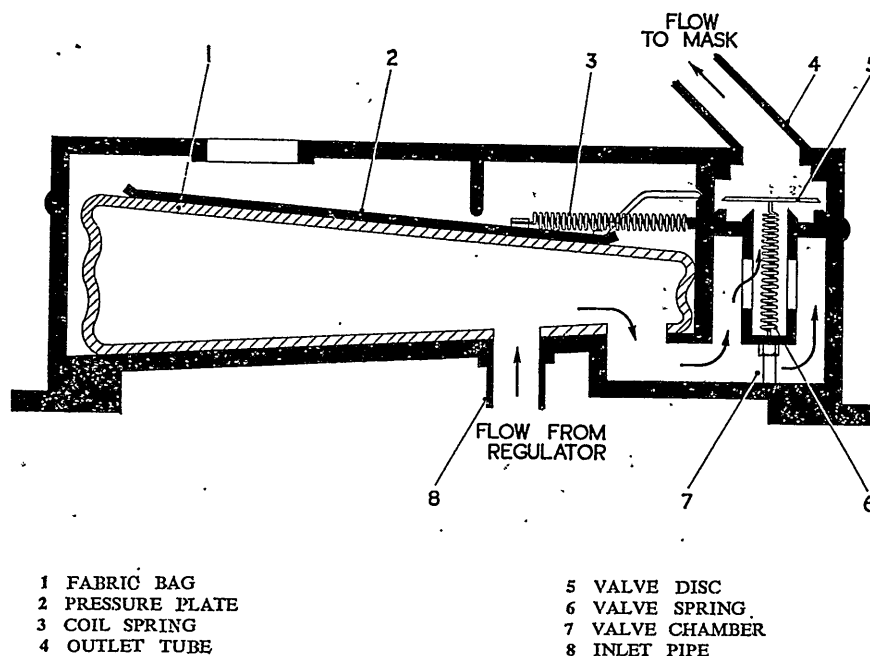

Fig. 3. Schematic diagram
8. The following description should be read in conjunction with fig. 3. When the oxygen regulator is turned on, oxygen enters the flexible storage bag (1) through the inlet pipe (8). The gas is then stored in the bag under light pressure imparted by the spring (3) on the pressure plate (2). The mica valve disc (5) is held on the seating by the spring (6), this spring being of a strength sufficient to prevent a flow of oxygen from the bag into the outlet pipe during the period that oxygen is stored in the bag.
9. The outlet tube (4) leads to the oxygen mask, and the suction created in this tube when the user inhales, lifts the valve disc against the pressure exerted by the spring (6) thereby allowing oxygen to pass from the storage bag to the user.